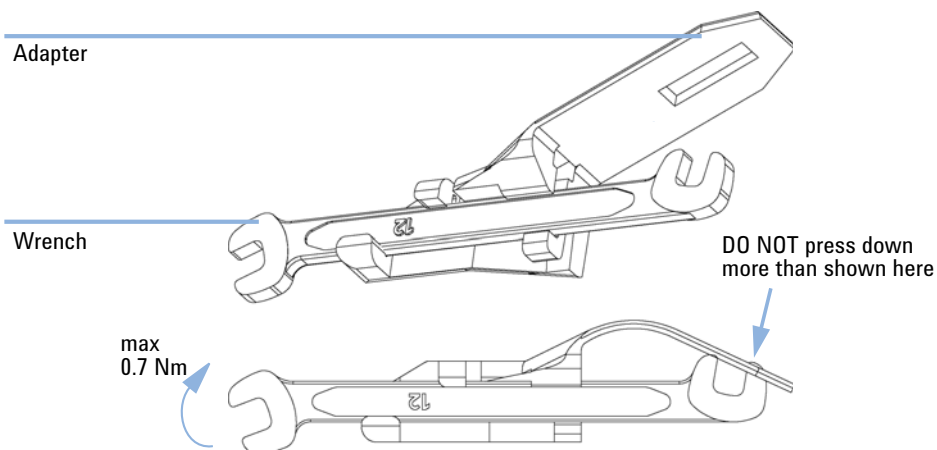

Figure 60 Wrench plus Torque Adapter
- 9** Insert the flow cell capillaries and tighten them fingertight. Use the wrench and torque adapter as described on Figure 60 on page 196 and tighten the fittings alternately.
With the instrument accessory kit comes a 4-mm wrench and with the Sealing Kit a special adapter. Both together work as a torque wrench with pre-defined torque (maximum allowed torque for the cell fittings is 0.7 Nm). It can be used to tight the capillary fittings at the flow cell body. The wrench has to be plugged into the adapter as shown in Figure 60 on page 196.